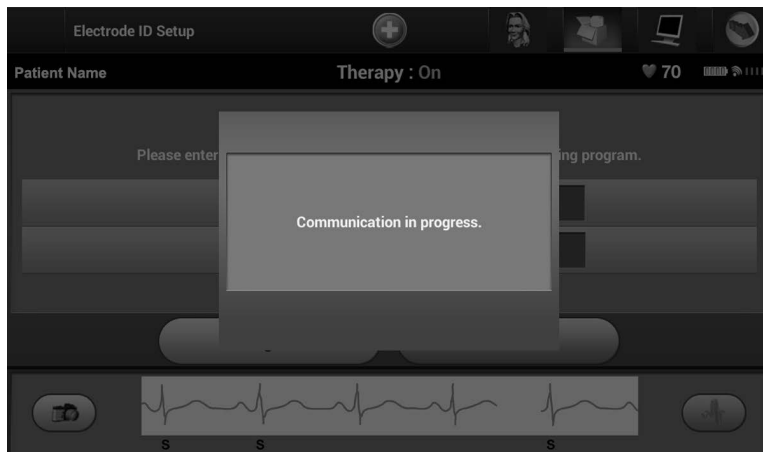

Figure 21: *Confirmation screen showing communication in progress*
6. Select the Program button to save the information. A confirmation screen will appear during communication with the SQ-RX device (Figure 21). Select Cancel to cancel information storage and return to the Automatic Setup screen.